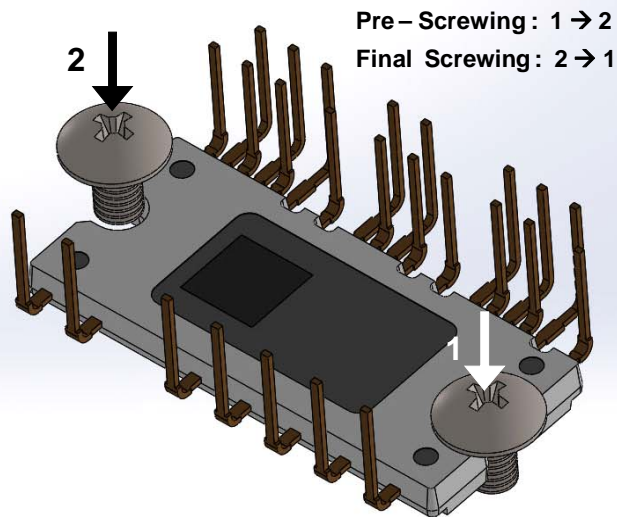

Figure 8. Mounting Screws Torque Order
- 9. Avoid one side tightening stress. Figure 8 shows the recommended torque order for mounting screws. Uneven mounting can cause the package to be damaged.